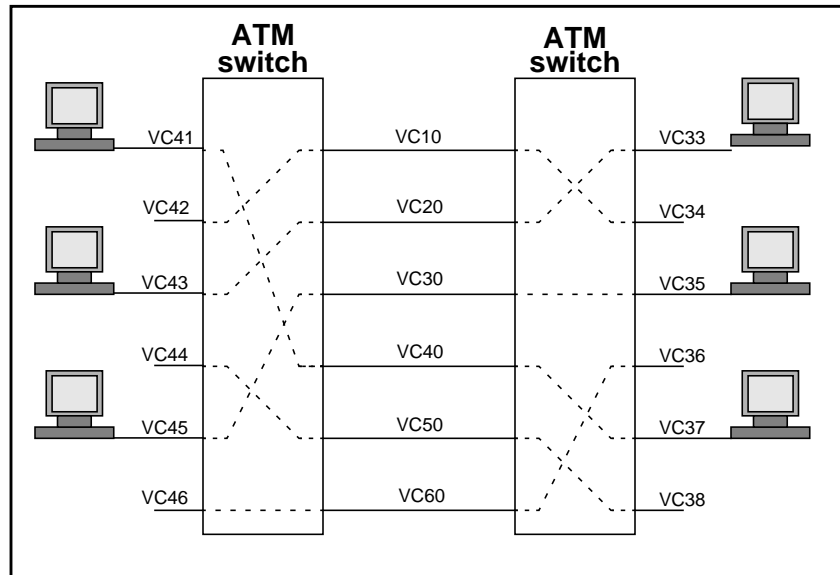

Figure C-2. Virtual Circuits
The *virtual path* (VP) creates groups of the VCs carried between the ATM entities, such as the ATM switches shown in Figure C-2: